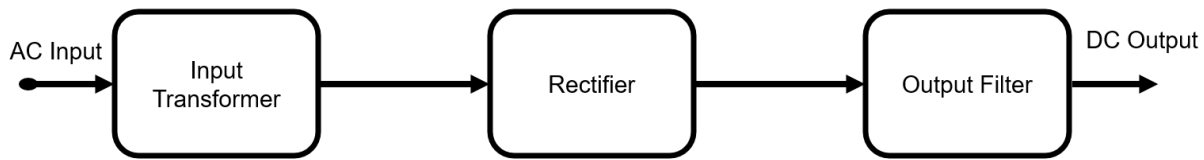

Figure 2: Linear AC/DC Power Supply Block Diagram
By using a transformer, the alternating current (AC) input voltage is reduced to a value more suitable for the intended application. Then, the reduced AC voltage is rectified and turned into a direct current (DC) voltage, which is filtered in order to further improve the waveform quality (Figure 2).